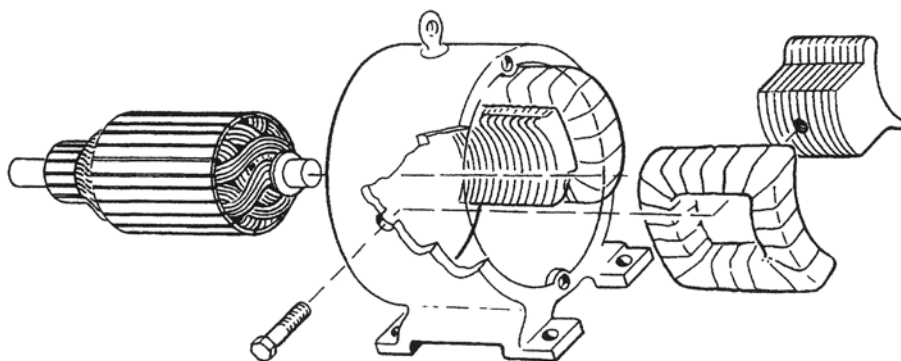

Figure 1
1. For the diagram of figure 1, label the following: